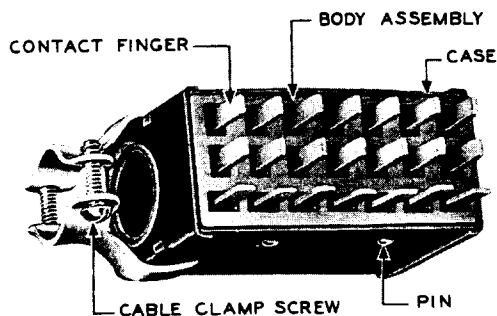

Fig. 1 - Howard B. Jones Plug Arranged for 21 Contact Fingers
1.01 This section covers Howard B. Jones multicontact plugs and sockets of the types illustrated in Figs. 1 and 2.